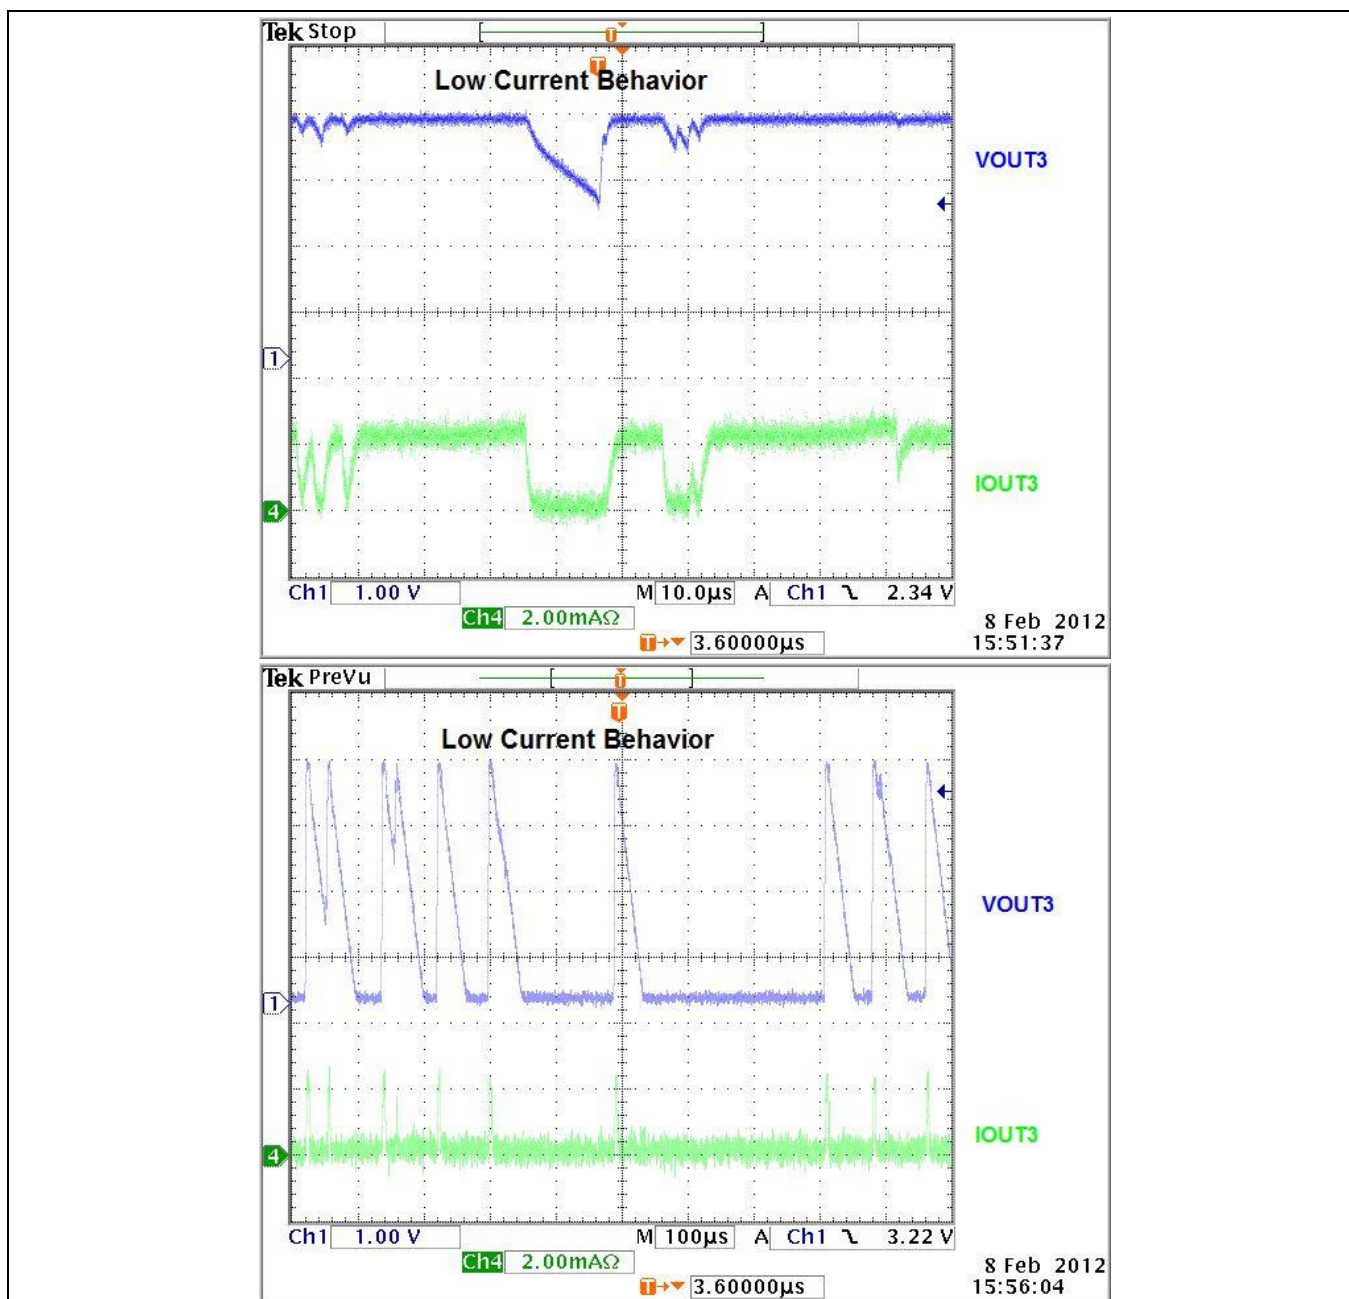

Figure 10 Behavior with very low current setting via R_{IN_SET}
- o Using high RSET resistor values to set output currents below 10mA should be avoided. Oscillations can occur on the output due to loss of current control. See example scope plots in Figure 10. This particular example occurred at an output current of approximately 2mA.